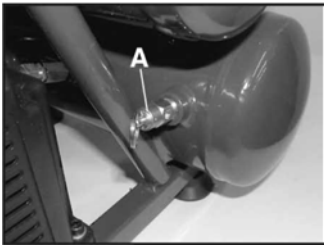

FIGURE 6
## SAFETY PRESSURE RELEASE VALVE (A) FIG. 6
- 4) Pull ring on safety valve (A) Fig.6, allowing air to bleed from the tank until tank pressure is approximately 20 PSI. Release safety valve ring.
NOTE: If drain valve is plugged, pull ring on safety valve (A) Fig.6, and hold until all air pressure has been released. The drain valve can